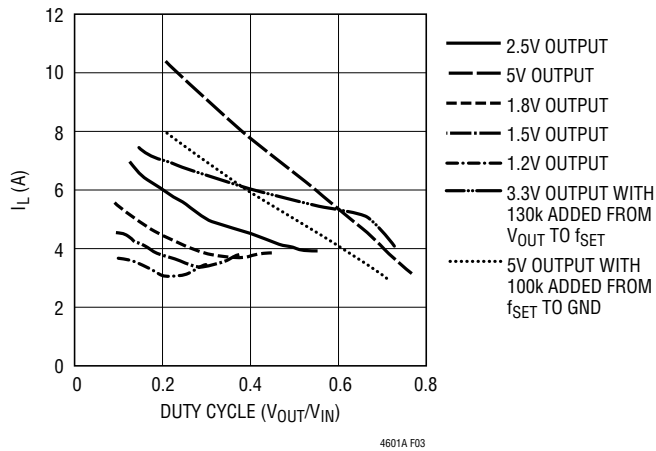

Figure 3. Inductor Ripple Current vs Duty Cycle
2.5V multiphase design can be read from the Inductor Ripple Current vs Duty Cycle graph (Figure 3). The large ripple current at low duty cycle and high output voltage can be reduced by adding an external resistor from f_{SET} to ground which increases the frequency. If the duty cycle is $DC = 2.5V/12V = 0.21$, the inductor ripple current for 2.5V output at 21% duty cycle is ~6A in Figure 3.